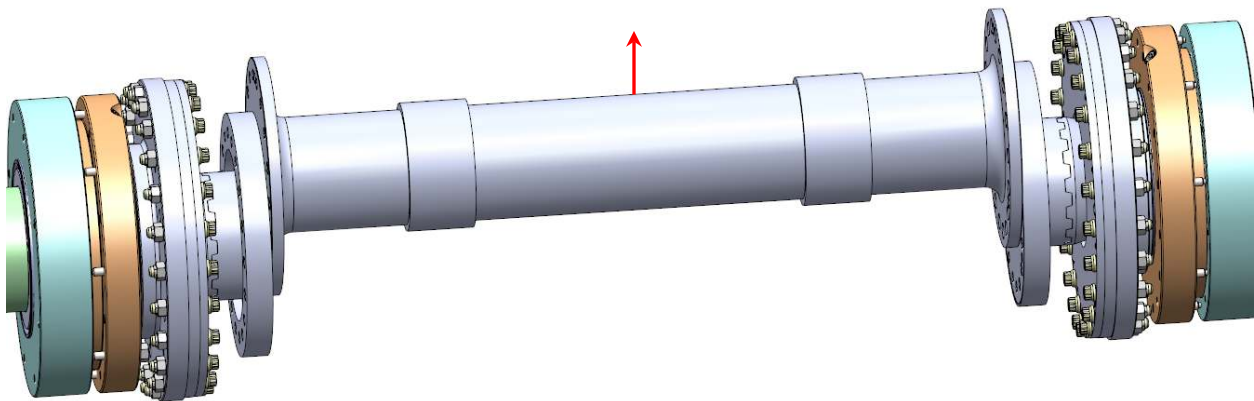

Figure 17 – Center Tube Removal
5.1.4 Slide the tube out as shown in Figure 17.